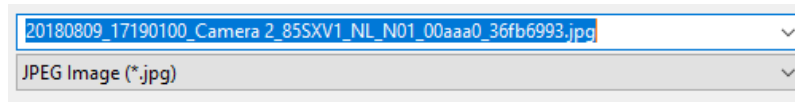

Figure 7.4.2.9
13. You can add an additional frame to the record when registering a vehicle. To do so, click Add Additional Image  in the lower right corner of the window. The window and the function of adding image a similar to the Add Driver Photo window (figure 7.4.2.3). This function is unavailable for the license not including surveillance camera.